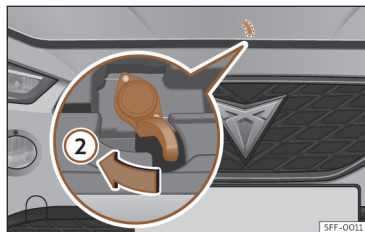

Fig. 207 Lever under the bonnet.
- To lift the bonnet, press towards the left on the lever located under the bonnet, in the centre >>> **Fig. 207** ②. The fastening hooks are unlocked.